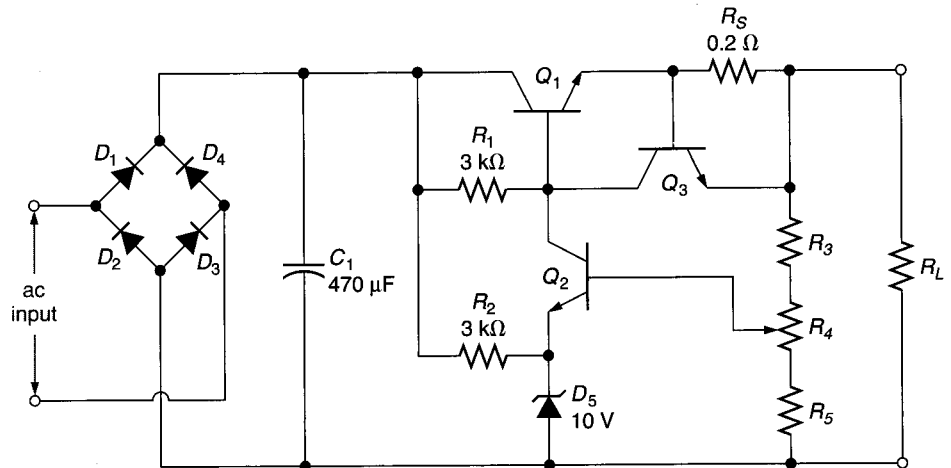

FIGURE 21.27
11. Determine the maximum possible value of load current for the circuit shown in Figure 21.27.
12.  $R_S$  in Figure 21.27 is changed to  $1.2\ \Omega$ . Determine the maximum possible load current for the new circuit.